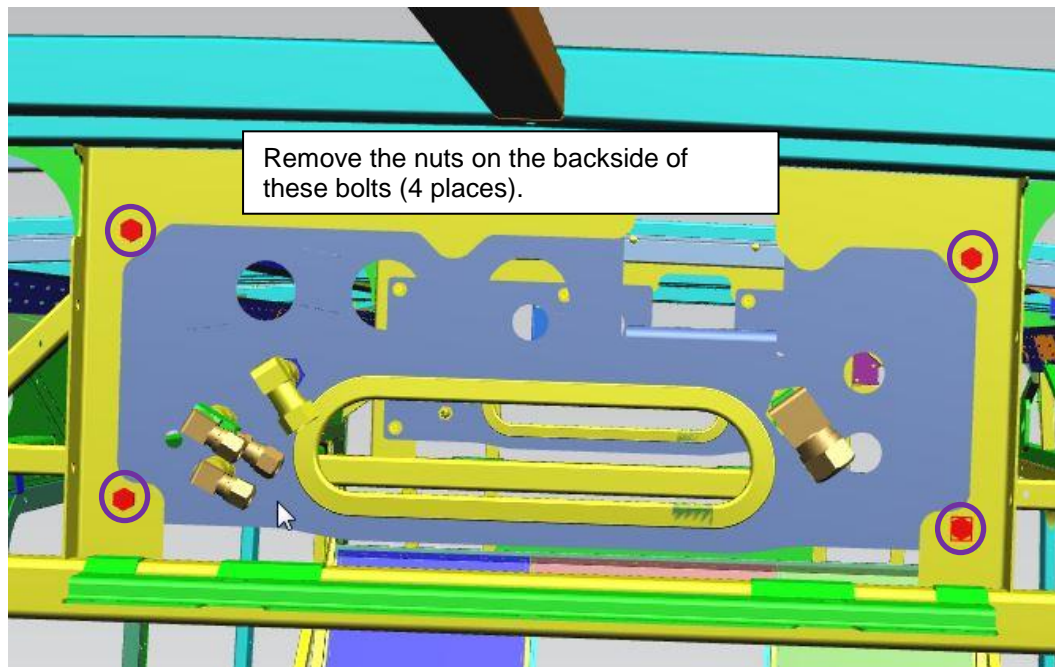

FIGURE 10: VIEW OF THE BOLTS THAT REQUIRE THE LOCK NUTS TO BE REMOVED
15. Remove the nuts on the backside of the bulkhead plate that secures to the bulkhead bracket frame. See Figure 10.